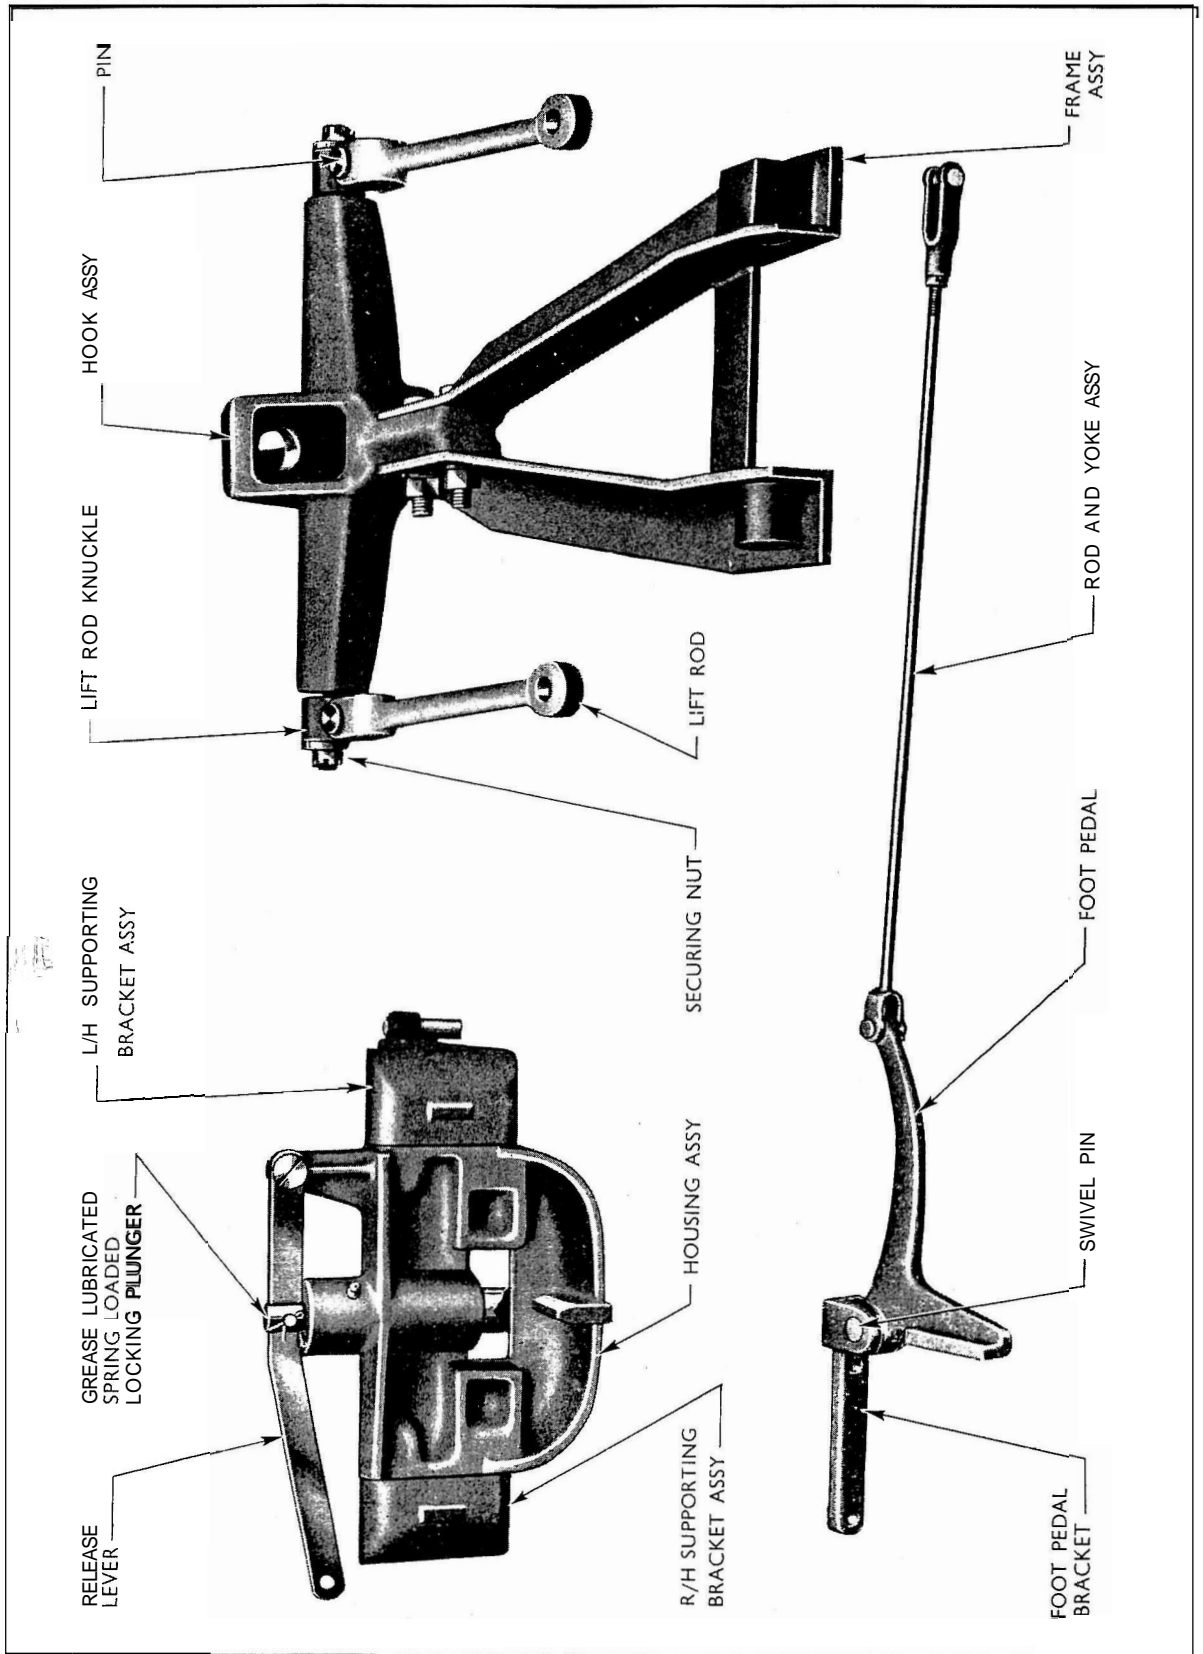

Fig. 6
The pick-up hitch installation consists of three sub-assemblies. (See Fig. 6.)
1. Bolt the frame assembly to the hook assembly using two bolts (45812-S), two spring washers (34813-S) and two nuts (34674-S), ensuring the hook assembly is fitted the correct way round. (See Fig. 6.)
1. Assemble the foot pedal to its bracket, using the swivel pin. (See Fig. 6.) Retain the pedal to the swivel pin with groove pin (72275-S).